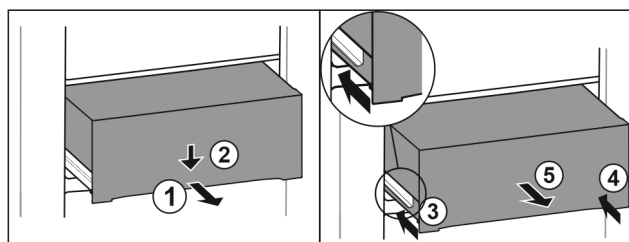

Fig. 94
- Pull out drawer half-way. Fig. 94 (1)
- Push the drawer down at the front. Fig. 94 (2)
- Push the left rail in by about 2 cm. Fig. 94 (3)
- Push the right rail in by about 2 cm. Fig. 94 (4)
- Remove drawer to the front. Fig. 94 (5)